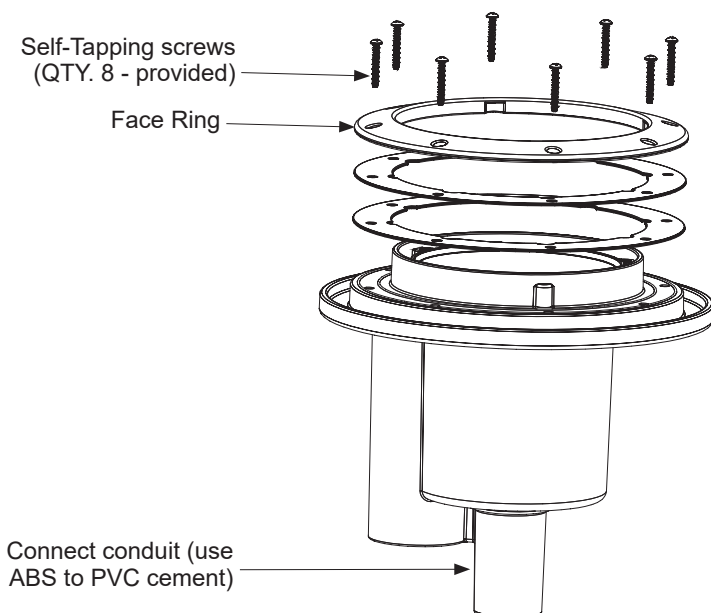

Figure 3.
7. Install the face ring, aligning the screw holes. Secure the face ring with the eight #8-18 x 1-inch self-tapping screws (provided), see Figure 3. Using a No. 2 Philips head screwdriver, tighten each retaining screw to **10 (minimum) - 15 (maximum) in-lbs** to secure the face ring and gaskets on the niche. **DO NOT OVER TIGHTEN THE SCREWS. DO NOT ASSEMBLE WITH POWER TOOLS.** Over tightening or using a motorized screwdriver on the sealing ring screws can over torque the screw threads and damage the niche housing and/or fiberglass seal.
3. Place the vinyl spacer on the niche aligning the screw holes. Note: there is only one correct orientation of the spacer where all screw holes are aligned with the niche. Fasten with the two #8-18 x 1/2-inch self-tapping screws (provided), see Figure 3 on page 8. Using a No. 2 Philips head screwdriver, tighten each retaining screw to **10 (minimum) - 15 (maximum) in-lbs** to secure the face ring and gaskets on the sump. **DO NOT OVER TIGHTEN THE SCREWS. DO NOT ASSEMBLE WITH POWER TOOLS.**
8. Secure the face ring to the niche with the eight #8-18 x 1-inch self-tapping screws (provided), see Figure 3 on page 6. Using a No. 2 Philips head screwdriver, tighten each retaining screw to **10 (minimum) - 15 (maximum) in-lbs** to secure the face ring and gaskets on the niche. **DO NOT OVER TIGHTEN THE SCREWS. DO NOT USE A POWER TOOL TO SECURE THE SCREWS.** Over tightening or using a motorized screwdriver on the sealing ring screws can over torque the screw threads and damage the niche housing and/or vinyl liner seal.